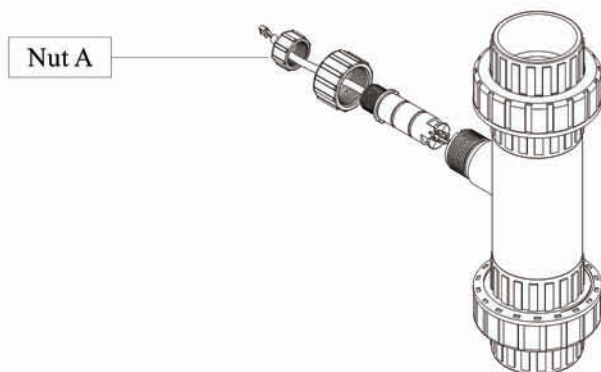

Figure 1-3
- B. When the flow meter stops measuring but the tested liquid still flowing, the working mode of probe can be checked online. Screw the probe nut A out, and check the working condition of the diode on the back of probe. If the diode always lights on or off, it indicates the impeller in pipeline stop rotating. It shall stop pipeline working, release pressure in pipeline, and disassemble the probe to check if there is any foreign matter impact impeller rotating. After cleaning, if it can rotate normally by manually, and the diode works normally, it can continue to use after confirming the installation correct.(As Figure 1-3)